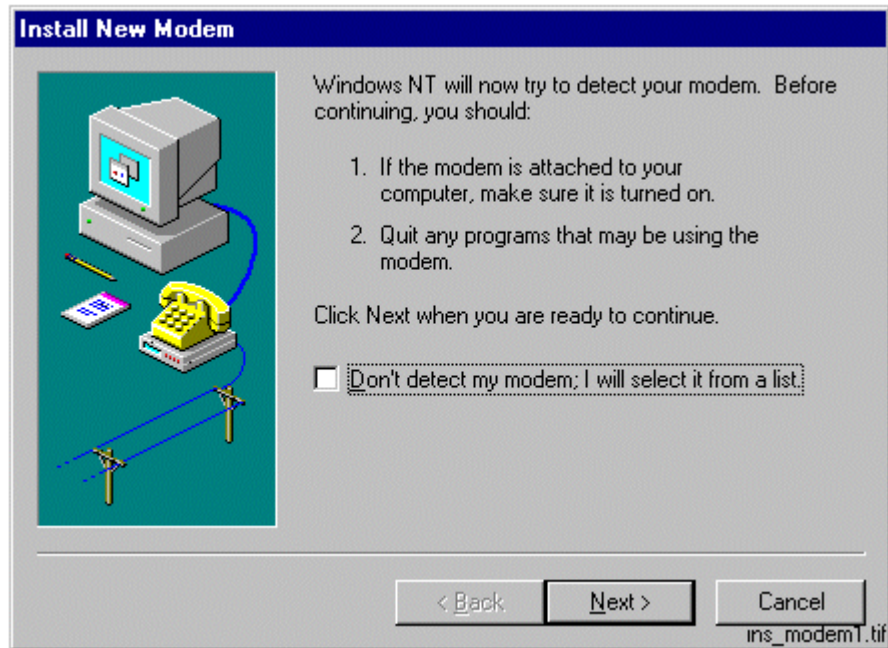

Fig. 5.8.2.-1 Installing a new modem in Windows NT
1. Double-click the icons My Computer and Control Panel. From Control Panel double-click the Modems icon to bring up the Install New Modem Wizard (see Figure 5.8.2.-1).